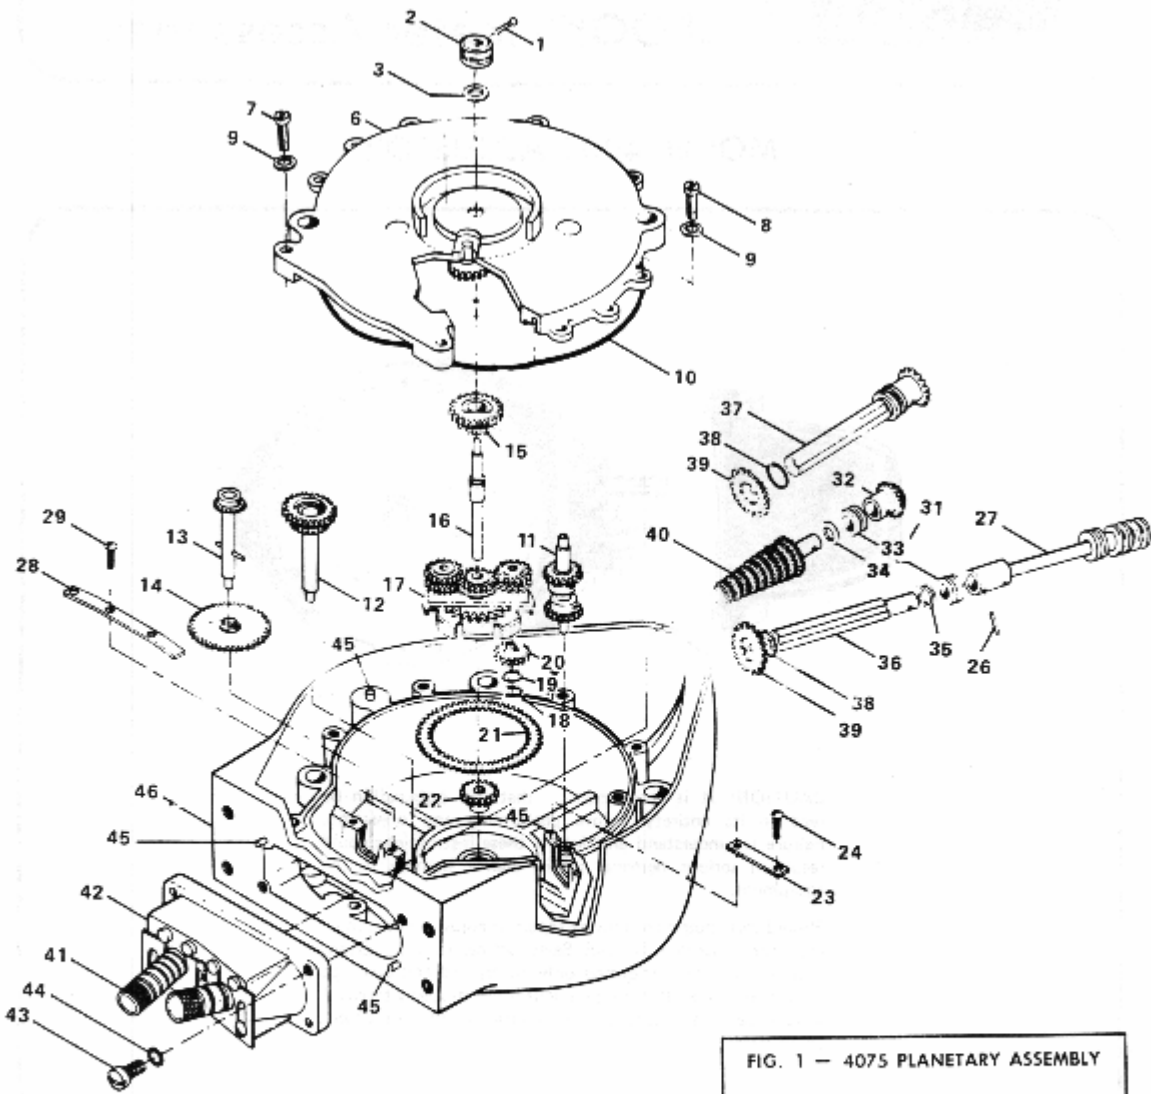

FIG. 1 - 4075 PLANETARY ASSEMBLY
1. If any 4073 gears (item 20) were removed from the 4075 planetary assembly (item 17) replace them together with 151894 washer (item 19) and 153942 spring clip (item 18).
2. Replace 4053 ring gear (item 21) on 4075 planetary assembly (with side up as shown in fig 1). Be sure ring gear is in mesh with the four 4073 gears. Install 4052 output gear (item 22) on planetary assembly in mesh with the four 4073 gears. Holding this assembly, place the 4006 adjustor housing (item 30) down over the 4052 output gear.
3. Replace 4080 input gear (item 15) and 4083 main shaft (item 16).
4. Replace 4105 gear (item 14) with slotted side up and 4100 jackshaft assembly (item 13).
5. Replace 4110 jackshaft assembly (item 12).
6. Replace 4085 jackshaft assembly (item 11).
7. With 152089 "O" ring (item 10) in place, install 4115 base assembly (item 6).